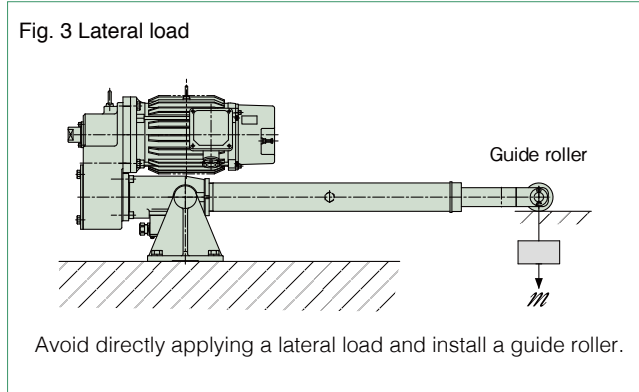

Fig. 3 Lateral load
① Lateral load Install guide roller etc., on the rod part. (Fig. 3)